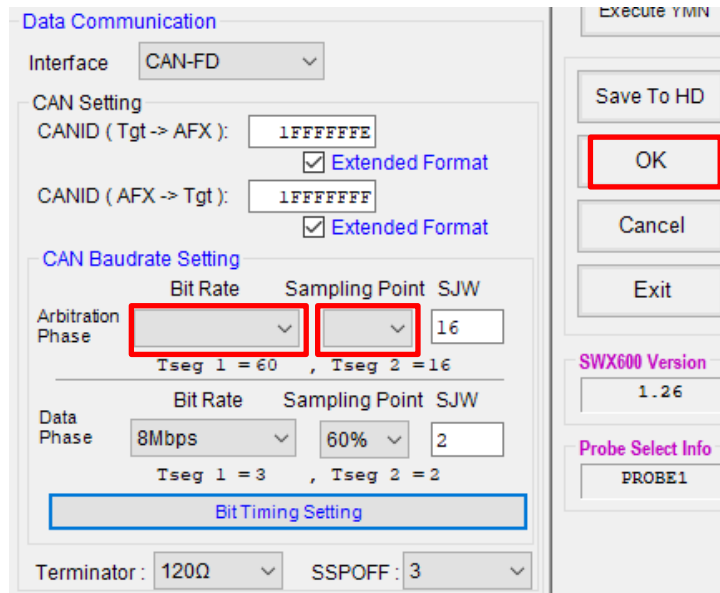

Figure 3
4. If returning to default settings, select "Bit Rate"→ "Sampling Point" again, press OK button (Figure 3 red frame).